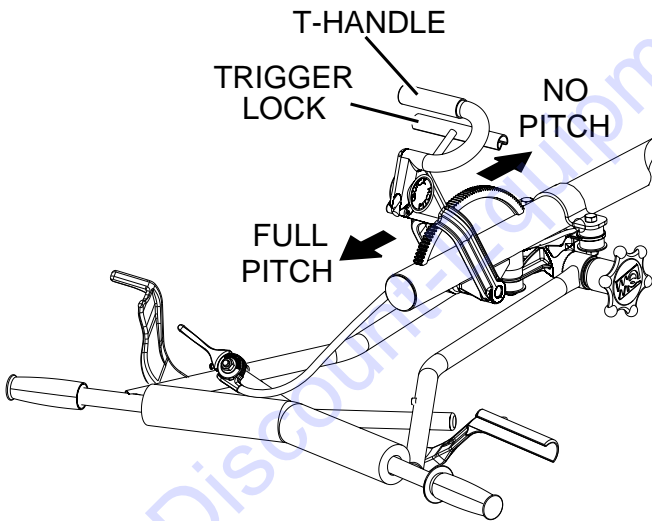

Figure 9. Adjusting Cable Blade Pitch (Quick-Pitch™ Handle)
2. For trowels equipped with a **Quick Pitch™ T-handle** (QXHC), simply squeeze the trigger lock and push the **T-handle** towards the engine to pitch the blades downward. Pushing the **T-handle** towards the engine will cause the blades to lay flat (Figure 9). This will release the tension on the blade pitch cable.